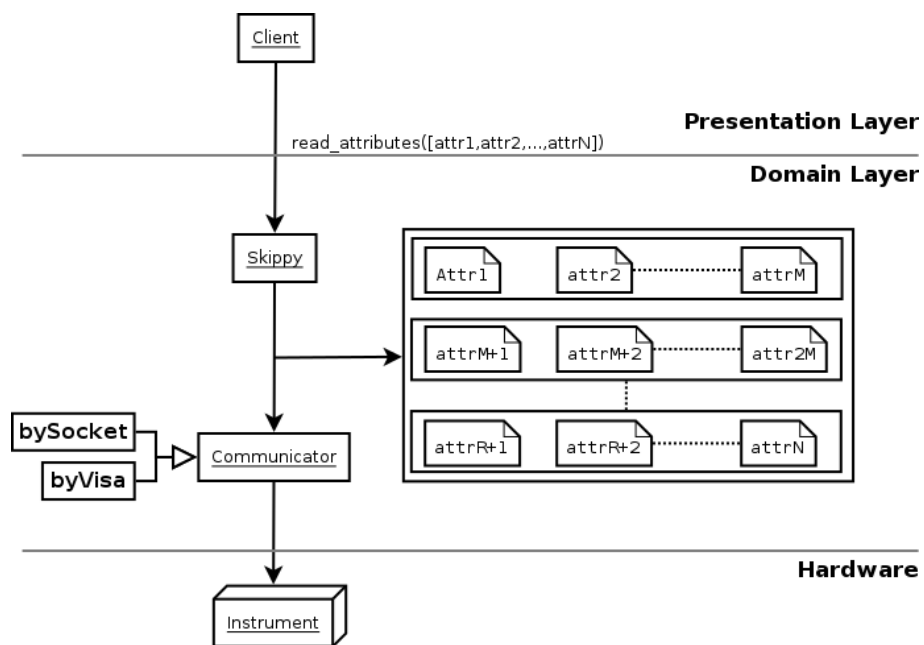

Figure 3: multiple request of readings to the instrument.
- Multiple request of data to the instrument: As figure 3 describes, when the device receives a request for reading to the instrument it can manage to cut those requests in subsets to avoid stress in the instrument. The communication itself supports a direct socket connection to the instrument and the use of the `PyVisa` device as a bridge in the communication.